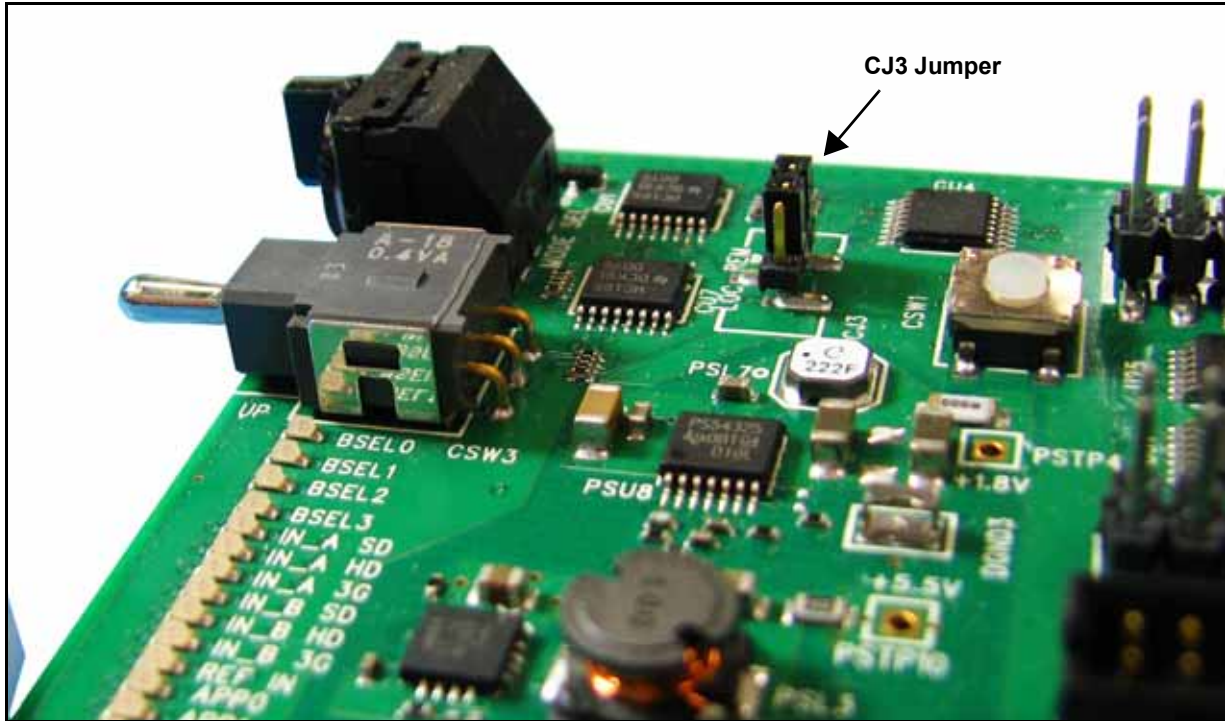

Figure 2-1 Jumper Location
- 1 Locate jumper **CJ3** on the module (behind the mode select rotary switch). **Figure 2-1** shows the location of the **CJ3** jumper.